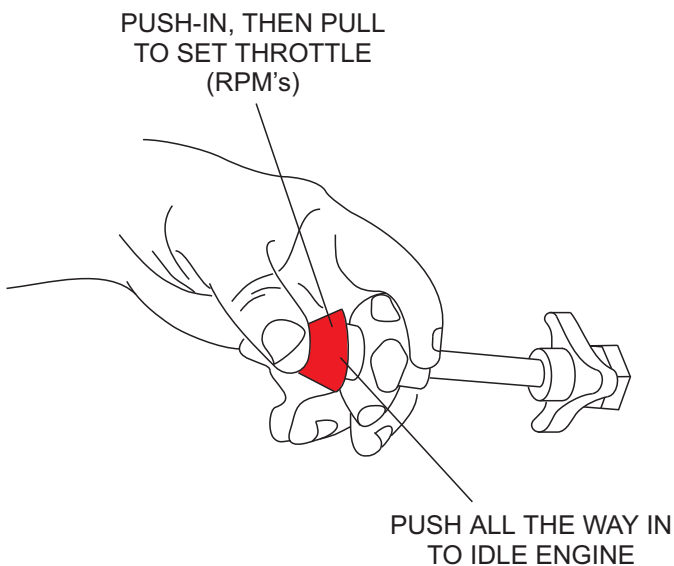

Figure 18. Throttle Control Knob (RPM Adjust)
2. Push the outermost button inward, then pull out about half way. This will set the throttle at half speed (Figure 18).